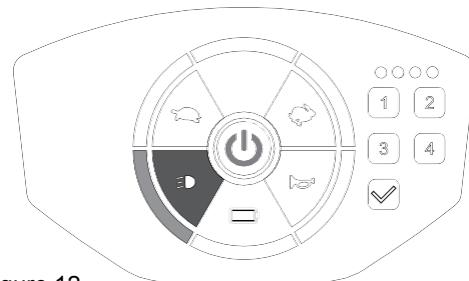

Figure 12
- Switch off by pressing the button again. The [ ⚡ ] light will be off on the panel. (Figure 12)